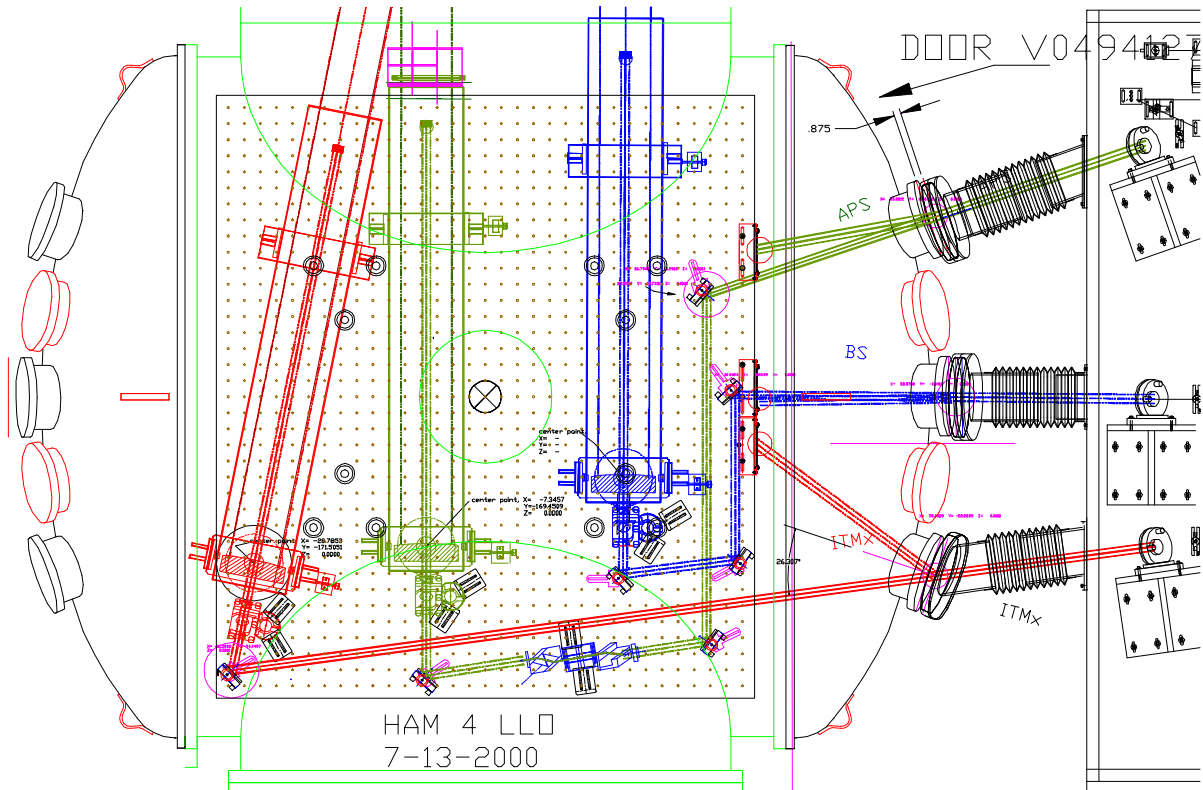
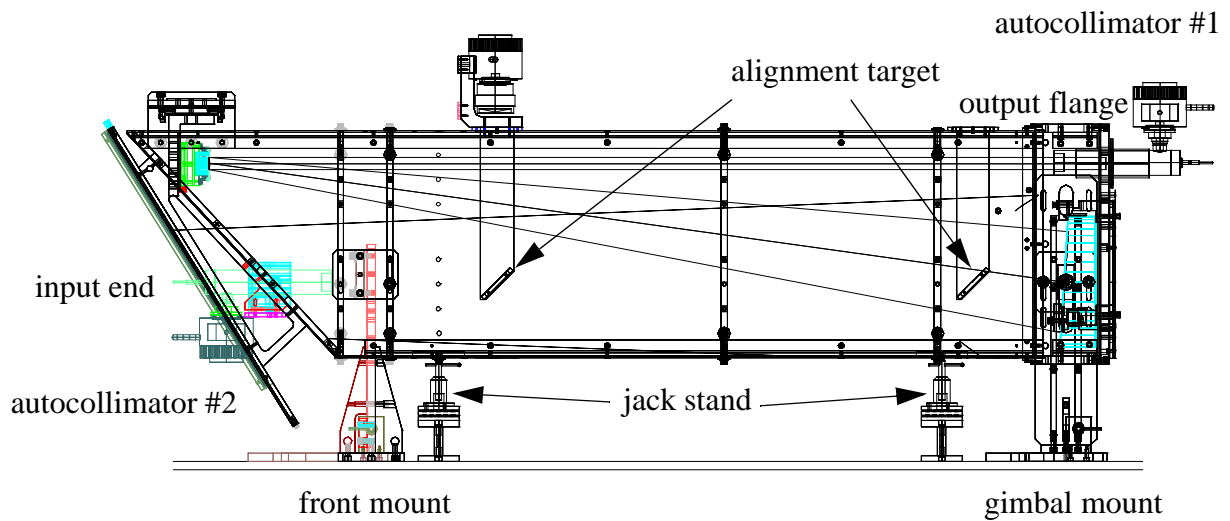
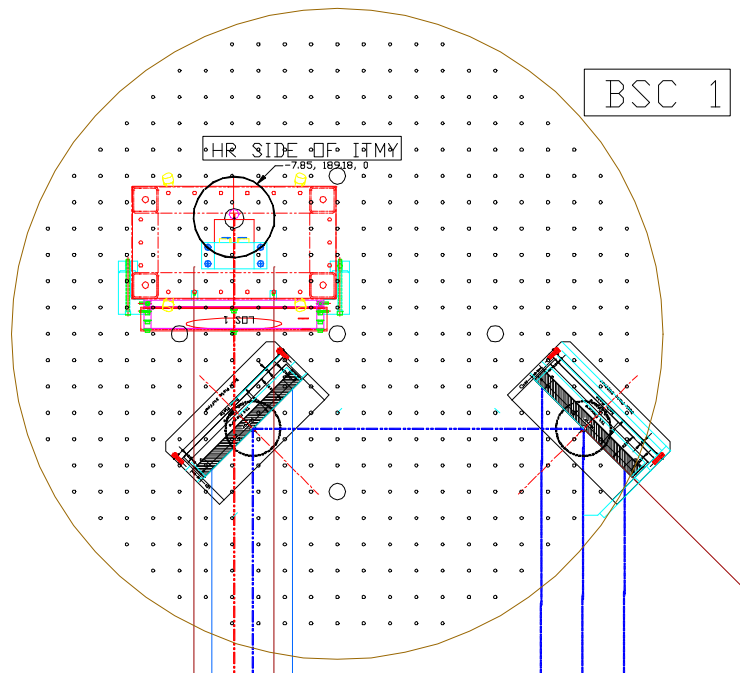
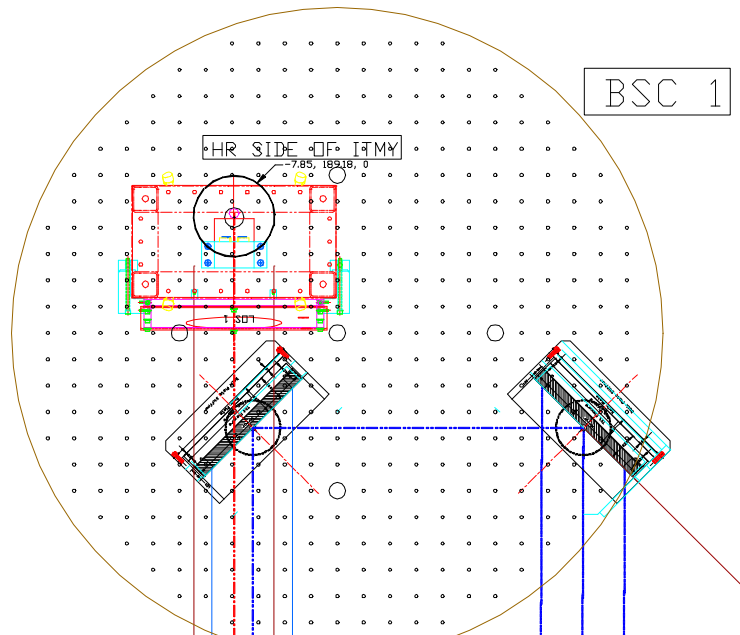

Figure 5: APS telescope, ITMx and BS PO telescopes, on HAM 4
Figure 6: APS Telescope Steering Mirror Alignment Beam
Figure 7: BS PO mirrors, on BSC1
Figure 17: BS PO mirrors, on BSC1
- Place the internal alignment target inside the telescope near the primary mirror, as shown in figure 6. Use the extension spring and push screw to translate the APS telescope gimbal mount (at the primary end of the telescope) horizontally, and turn the jack screw to move
Place the ITM_x, ITM_y and BS PO telescope external primary mirror alignment targets at the position of the PO telescope primary mirrors on the HAM tables, as shown in figures 5 and 9. Focus the COS autocollimator to project a sharp image of the reticle pattern at each target. Steer the corresponding PO mirrors located on BSC1 and BSC2, as shown in figures 7 and 8, until the projected reticle pattern is centered with the cross on the target. After steering is completed, permanently lock the tilt mechanism of the PO mirror.
Remove the external primary mirror alignment targets. Place the PO telescopes in their proper positions on the HAM tables, as shown in figures 5 and 9. The height of the primary mirror for the PO telescopes is pre-set at 16 inches above the HAM table. Support the front and back of each PO telescope in turn with the jack stand alignment fixtures. Proceed to center the front and back of the PO telescope with the projected reticle pattern, as was done for the APS telescope. When the front and the back of the PO telescope is aligned with the reticle pattern, attach permanently the primary gimbal mount to the HAM table, leaving it free to rotate in the azimuthal direction.
Attach the mounting bracket at the input end of the telescope, and insert autocollimator #2, with a 990 nm laser illuminator source, into the x-y mount; insert autocollimator #1 into the output flange of the telescope, as shown in figure 6. Focus both autocollimators at infinity. Turn on autocollimator #2 and adjust its elevation and azimuth, with the x-y mount, until the projected reticle is aligned with the cross-hair of autocollimator #1 at the output of the APS/PO telescope. Autocollimator #1 will now be removed from the output of the APS/PO telescope. The reticle pattern from autocollimator #2, projected through the back end of the telescope, will be progressively focussed on targets placed on each steering mirror and aperture along the optical train, as shown in figures 5 and 9, and each succeeding steering mirror will be centered on the reticle pattern and pointed toward the next mirror to define the desired beam path on the HAM optical table. The last steering mirror will be pointed to project the output reticle pattern onto a target placed on the HAM viewport window alignment fixture, which marks the desired position of the output beam at the viewport window.
- Place the internal alignment target inside the telescope near the primary mirror, as shown in figure 6. Use the extension spring and push screw to translate the APS telescope gimbal
Place the ITM_x, ITM_y and BS PO telescope external primary mirror alignment targets at the position of the PO telescope primary mirrors on the HAM tables, as shown in figures 5 and 9. Focus the COS autocollimator to project a sharp image of the reticle pattern at each target. Steer the corresponding PO mirrors located on BSC1 and BSC2, as shown in figures 17 and 18, until the projected reticle pattern is centered with the cross on the target. After steering is completed, permanently lock the tilt mechanism of the PO mirror.